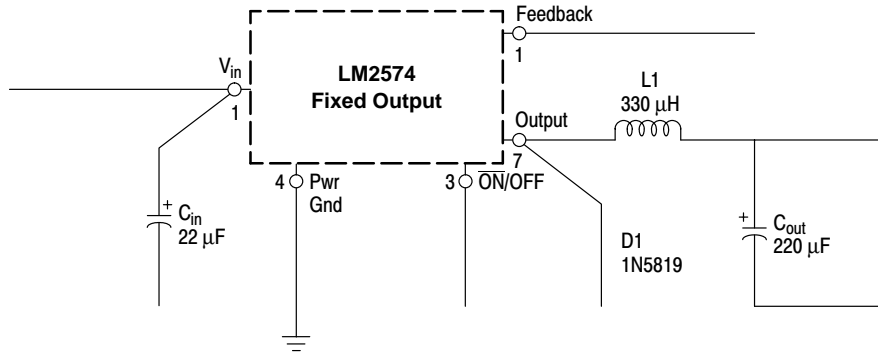

Figure 16. Test Circuit and Layout Guidelines
## SYSTEM PARAMETERS ([Note 1] Test Circuit Figure 16)
### LM2574-3.3 ([Note 1] Test Circuit Figure 16)
### LM2574-5 ([Note 1] Test Circuit Figure 16)
### LM2574-12 ([Note 1] Test Circuit Figure 16)
### LM2574-15 ([Note 1] Test Circuit Figure 16)
### LM2574 ADJUSTABLE VERSION ([Note 1] Test Circuit Figure 16)
- External components such as the catch diode, inductor, input and output capacitors can affect the switching regulator system performance. When the LM2574 is used as shown in the Figure 16 test circuit, the system performance will be as shown in the system parameters section of the Electrical Characteristics.
## SYSTEM PARAMETERS ([Note 3] Test Circuit Figure 16)
TYPICAL PERFORMANCE CHARACTERISTICS (Circuit of Figure 16)
TYPICAL PERFORMANCE CHARACTERISTICS (Circuit of Figure 16) (continued)